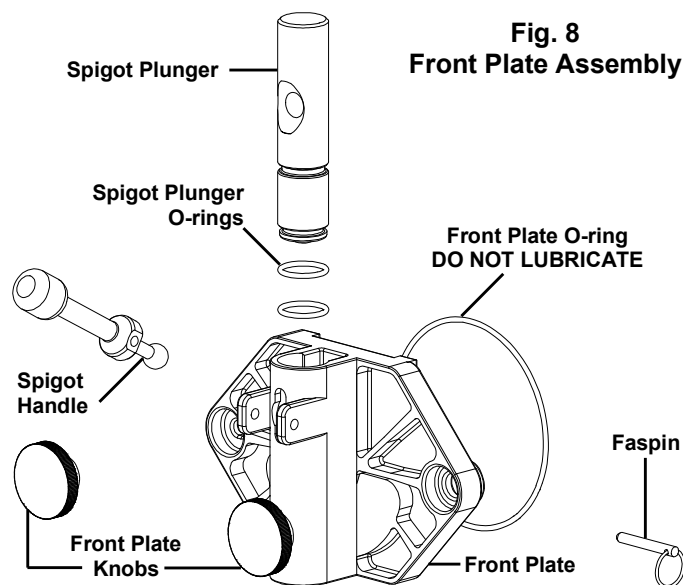

Fig. 8
5. Remove the front plate by turning the black plastic knobs in a counterclockwise direction (Fig. 8). Disassemble the front plate in the following manner: